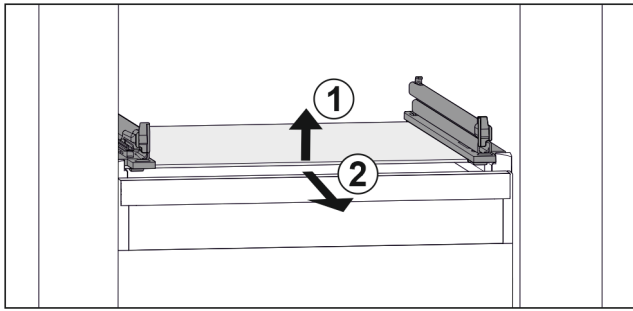

Fig. 50 Example illustration of glass shelf
- ▶ Lift glass shelf at the front. Fig. 50 (1)
- ▶ Take out glass shelf to the front. Fig. 50 (2)